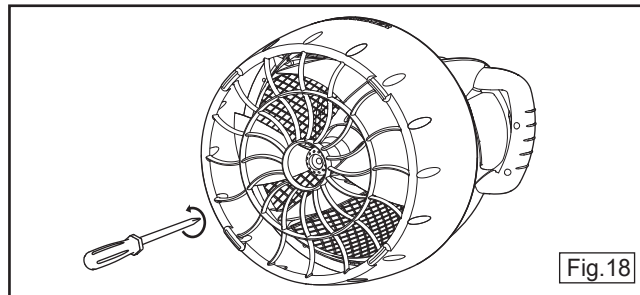

Fig.18
4. Unscrew the eight Rear Grille screws as shown in fig. 18.